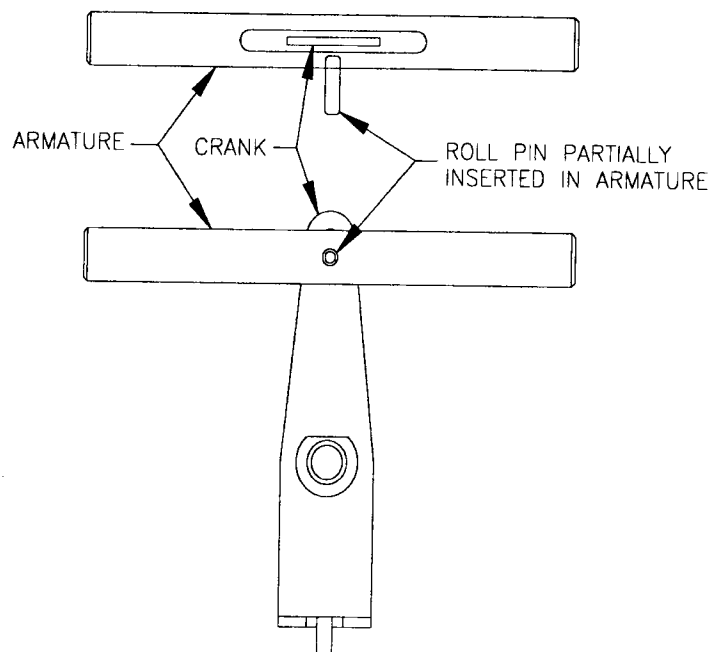

Fig. 15
- h. To separate the crank from the armature, carefully drive out the roll pin until the crank can be removed from the slot in the armature. The roll pin does not have to be removed completely from the armature. Leaving the roll pin partially inserted in the armature will make reassembly easier. (See Fig. 15)